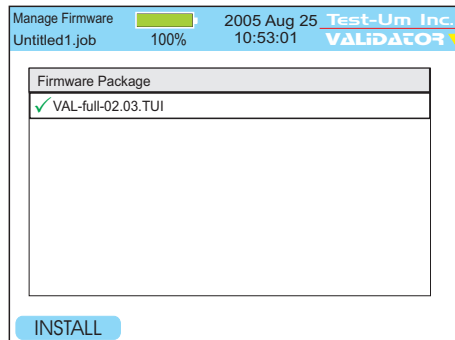

Figure 2.7 Firmware Manager
6. Select the firmware file from the Firmware Package list. Press the Install soft key (F1) to install the firmware. (Figure 2.7)